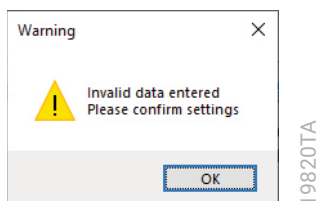
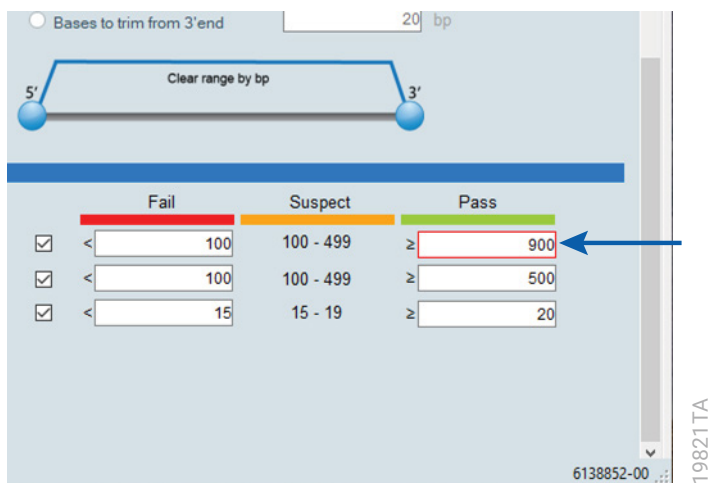

Figure 201. Warning message for invalid data.
Figure 202. Example of outlined invalid data.
6. When attempting to Save the Assay, any fields containing impermissible data will be outlined in red after receiving the following warning message (Figure 201 and Figure 202).
3. When attempting to Save the Instrument Protocol, any fields containing impermissible data will be outlined in red after receiving a warning message (see Figure 201 and Figure 202 for examples).
3. When attempting to Save the Basecalling Protocol, any fields containing impermissible data will be outlined in red after receiving a warning message (see Figure 201 and Figure 202 for examples).
3. When attempting to Save the Sizecalling Protocol, any fields containing impermissible data will be outlined in red after receiving a warning message (see Figure 201 and Figure 202 for examples).